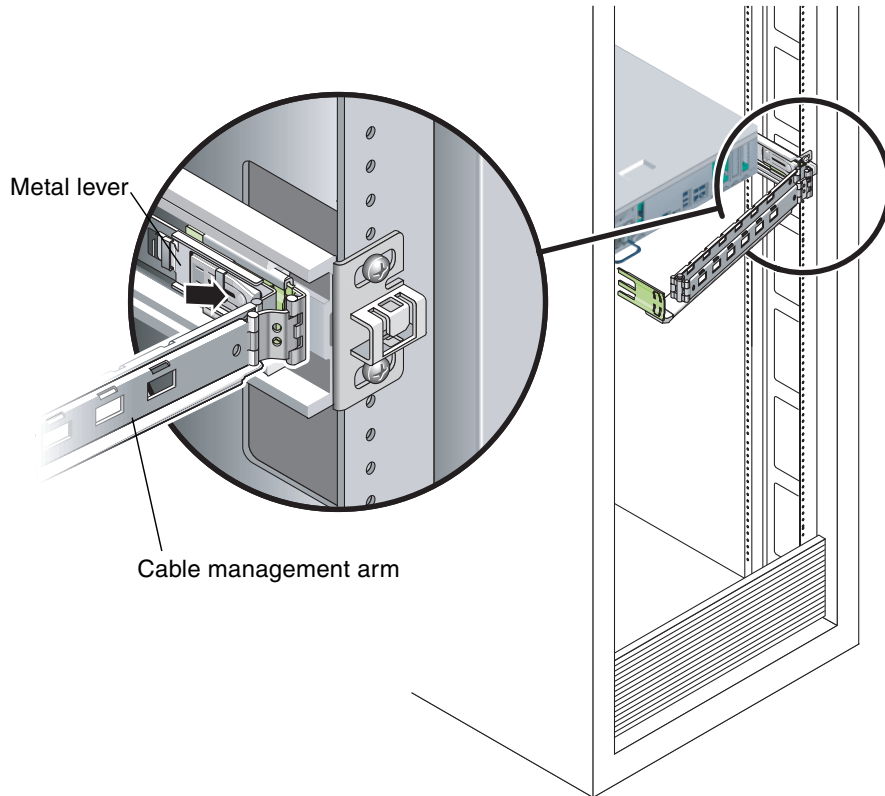

FIGURE 3-3 Metal Lever and Cable Management Arm
3. Press the metal lever that is located on the inner side of the rail to disconnect the cable management arm (CMA) from the rail assembly (FIGURE 3-3).